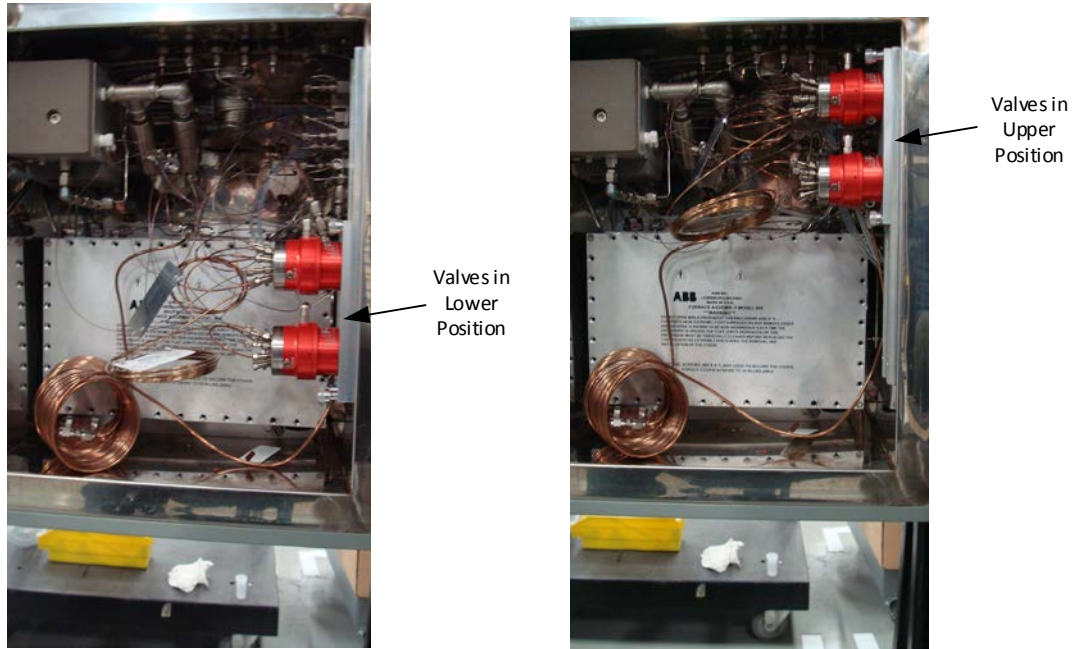

Fig. 7.2. Moving the Valves
8. To move the sliders (see Figure 7.2):